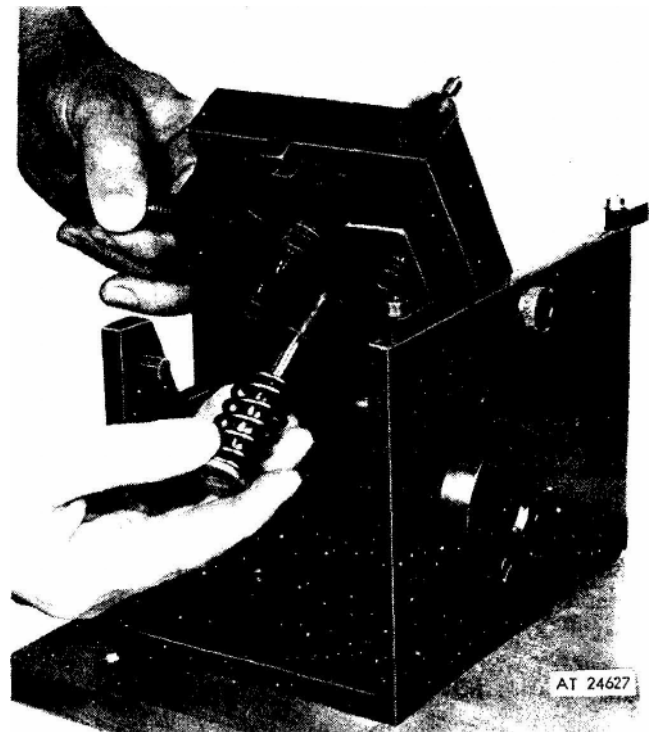

Figure 19. Removing or installing plunger follower, plunger and spring.
3. Refer to figure 19 and lift the follower and plunger from the injector body as an assembly.
3. Refer to figure 19 and remove the plunger follower, plunger and spring as an assembly.
1. Refer to figures 19 and 31 and slide the head of the plunger into the follower.